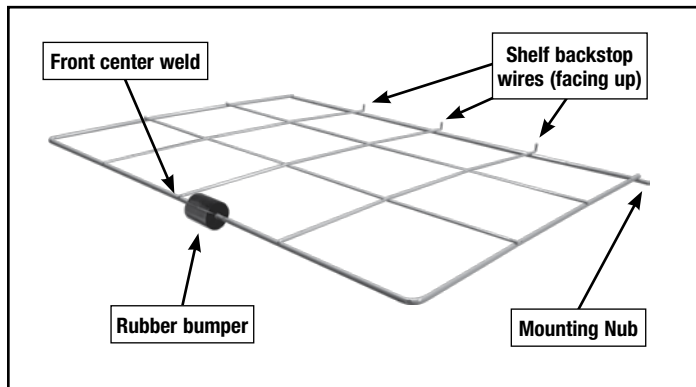

Figure 6. Install Standard shelves with backstop wires facing up (pictured with bumper, which is usually installed after all shelves are in place).
2. Follow the same procedure for each of the standard shelves (Figure 6), working up from the bottom. Be sure all backstop wires are extending upward.
4. Snap one rubber bumper to the front of each shelf to the left or right of the shelf center weld (Figure 6), including the bottom shelf. Install all bumpers in the same position and align them above one another so the shelves remain level to the base.